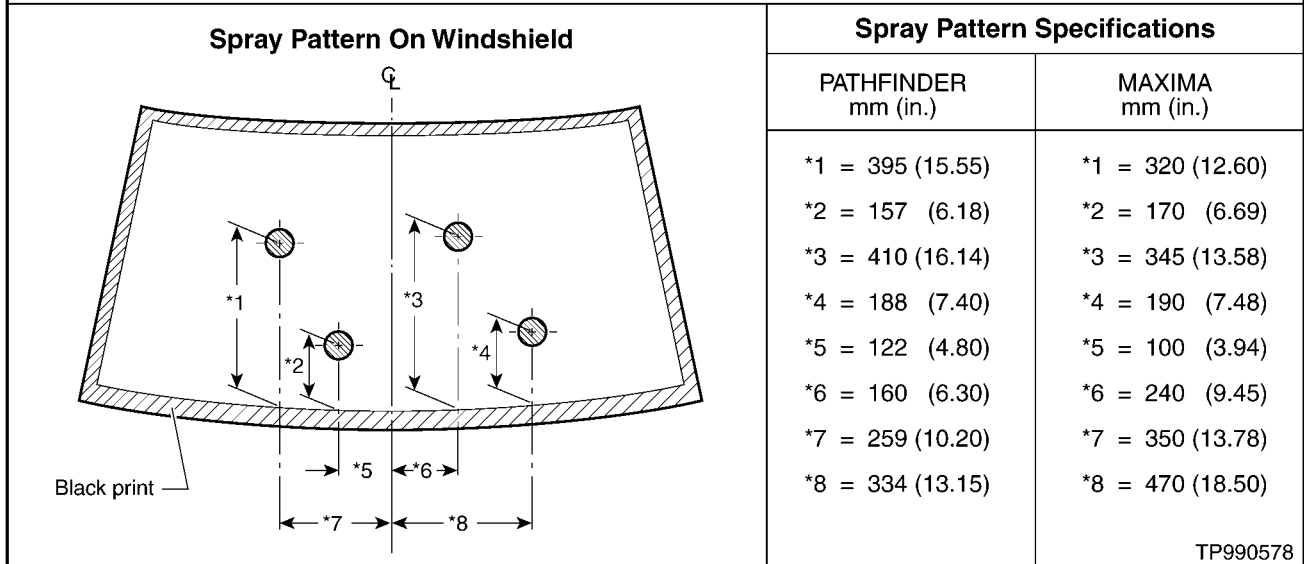

Figure 1
1. Place a small piece of masking tape (one half-inch square) on the windshield at each point that the washer fluid should contact the windshield according to the new spray pattern specifications listed in Figure 1.